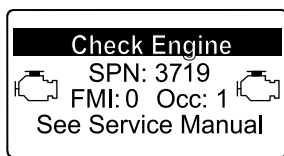

Figura 44
- Engine warning (AVERTISMENT MOTOR) SPN 3719, FMI: 0 (Figura 44)